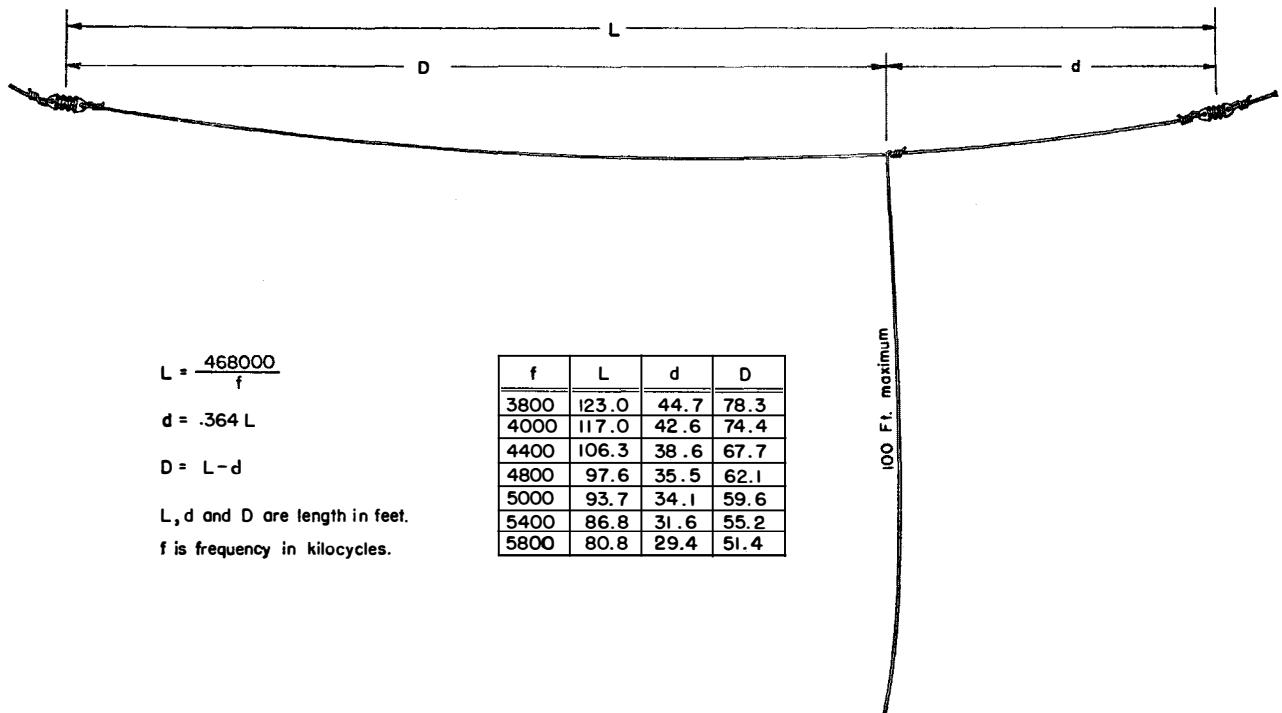

FIG. 22. T-SHAPED ANTENNA
18. Functioning of Optional Antennas (FIG. 22)
- When using either the 25-foot or the 15-foot rod antenna set the ANTENNA SELECTOR switch to position 1. If any other type of antenna is used, as for example, a ground antenna (any piece of wire of any length lying on the ground), (Figure 8) or a T-shaped antenna (Figure 22), select the position of the ANTENNA SELECTOR switch very carefully. To determine the best position for this switch, turn it to the right, step-by-step, from position 1 to position 5. For each position, turn the ANTENNA TUNING dial through its entire range with the ANTENNA COUPLING dial set at, or near 50. The most desirable position of the ANTENNA SELECTOR switch is the one that gives the highest current reading.
- When using a T-shaped, or Hertz antenna, best results may be obtained by adhering to the dimensions given in Figure 22. The transmitting frequency should be decided upon before constructing the antenna.